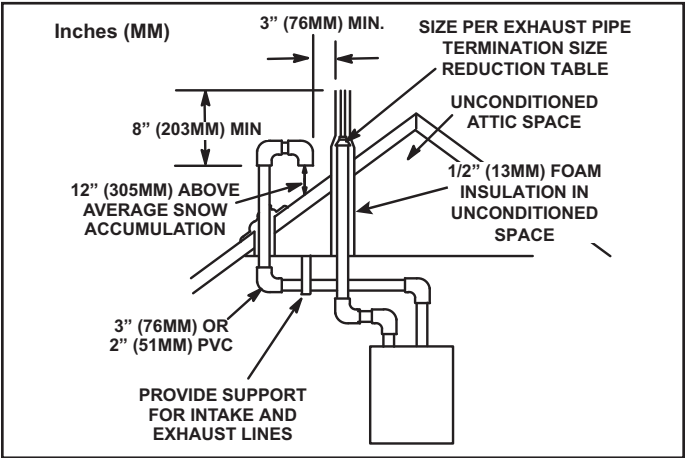

Figure 22. Direct Vent Roof Termination Kit
Intake and exhaust pipes may be routed either horizontally through an outside wall or vertically through the roof. In attic or closet installations, vertical termination through the roof is preferred. Figure 22 through Figure 29 show typical terminations.
- 3. On roof terminations, the intake piping should terminate straight down using two 90° elbows (Figure 22).